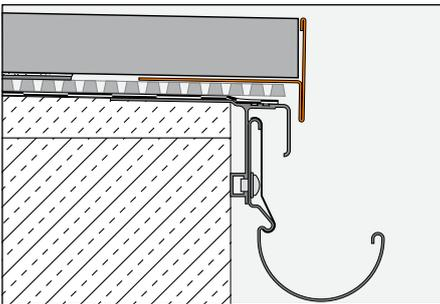

Fig. 2
### Installation with self-supporting pavers on spots of mortar with BARA-RT / BARA-RTC (Fig. 2 and 3)
3.2 If the assembly is constructed on top of TROBA-PLUS with the thin-bed formwork rings Schlüter-TROBA-STELZ-DR (Fig. 2), the BARA-RT / BARA-RTC finishing profile will cover the exposed edge of the assembly. In this case, place the outer spots of thin-bed mortar on the trapezoid perforated anchoring leg of BARA-RT / BARA-RTC. Then install the self-supporting pavers over the spots of mortar.